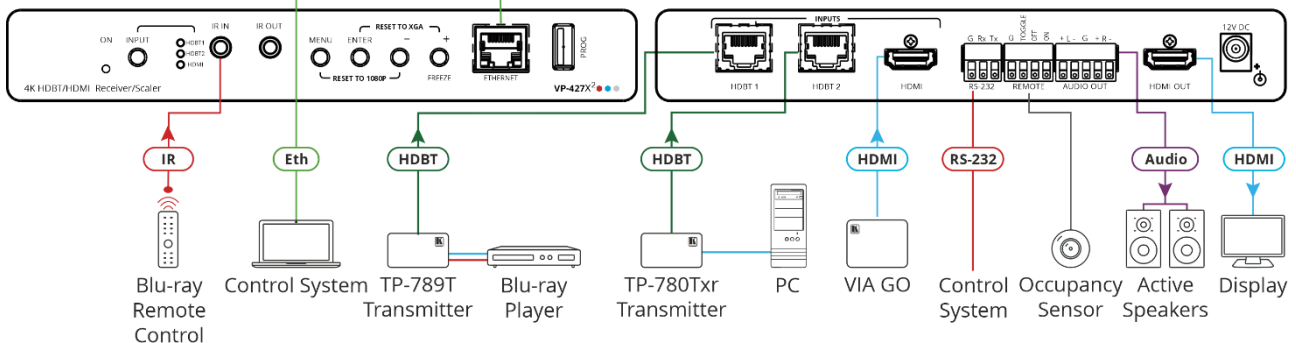

Figure 3: Connecting to the VP-427X2
To connect VP-427X2 as illustrated in the example in Figure 3:
1. Connect an HDBT transmitter (for example, Kramer **TP-780Txr**) to the INPUT HDBT 1 RJ-45 port (12) on the front panel. The transmitter is connected to a Blu-ray player.
2. Connect an HDBT transmitter (for example, Kramer **TP-780Txr**) to the INPUT HDBT 2 RJ-45 port (13) on the front panel. The transmitter is connected to a PC.
3. Connect an HDMI source (for example, Kramer **VIA GO**) to the HDMI INPUT connector (14).
4. Connect the HDMI OUT connector (18) to an HDMI Acceptor (for example, a display).
5. Connect the REMOTE pins (16) to contact closure switches (for example, an occupancy sensor). (See Connecting the Remote Control Switches on page 9).
6. Connect the AUDIO OUT 5-pin terminal block connector (17) to a balanced stereo audio acceptor (for example, Kramer **Tavor 5-O** active speakers).
7. Connect an IR sensor to the IR IN 3.5mm mini jack (4). In this example, point the Blu-ray remote controller to the sensor to control the Blu-ray that is connected to **TP-780Txr** via HDBT.
8. Connect a control system (for example, a laptop) to the ETHERNET RJ-45 port (10).
9. Connect a control system to the RS-232 3-pin terminal block connector (15). (See Connecting to VP-427X2 via RS-232 on page 8).
10. Connect the power adapter to **VP-427X2** and plug the adaptor to the mains electricity (not shown in Figure 3).